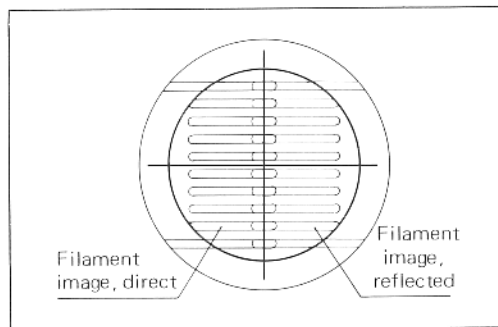

Fig. 14
- 7) Focus the mirror at the rear of the lamp housing back and forth, to superimpose the slightly darker image of the lamp filament on the brighter direct image. It may be necessary to manipulate the centering screws again to achieve alignment. (See Fig. 14)